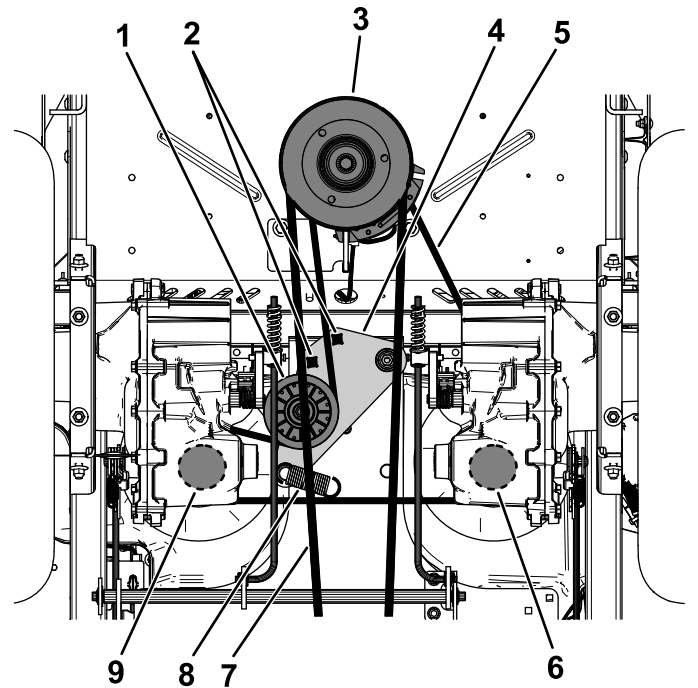

Figure 74
5. Use a 1/2-inch ratchet or breaker bar in one of the square holes in the idler arm to remove tension on the idler spring (Figure 74).
6. Remove the existing belt from the idler pulley, 2 hydraulic-pump-drive pulleys, and engine pulley (Figure 74).
7. Install the new belt around the idler pulley, engine pulley, and 2 hydraulic-pump pulleys (Figure 74).